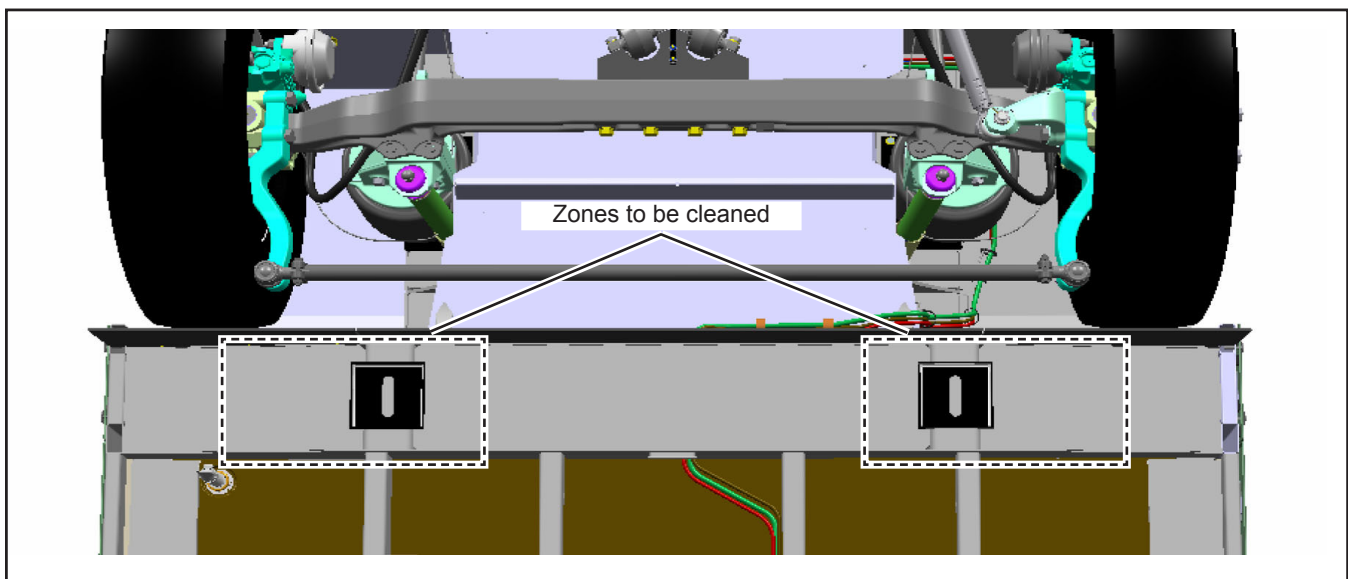

Figure 3 - Beam surfaces to be cleaned
- 1.9. Clean 11 in. (275 mm) on each side of the left and right gussets, on all faces of the beam. See Figure 3.